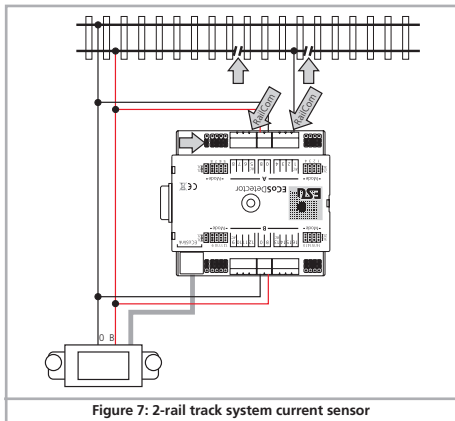

Figure 7: 2-rail track system current sensor
Please make sure that you always cut the "correct" track and thus the correct pole of the digital track voltage when isolating the track sectors. In figure 7 it is shown that the conductor "B" (red) must be isolated. This must be done in the same way for the entire layout.
- Connect the inputs "0" and "B" of the ECoSDetector with the appropriate booster output. In the example in figure 7 both feedback groups "A" and "B" are supplied by the same booster. Therefore the terminals "0" and "B" on both sides of the ECoSDetector must be connected with each other. If you use a separate ECoS-Boost for group "B" (feedback inputs 9 through 16) then the module must be wired as described in chapter 6.4.